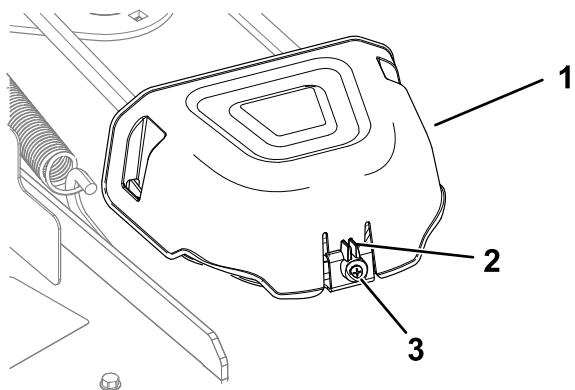

Figure 53
- Loosen the screw and push in the tab on the cover to remove the pulley covers (Figure 53).